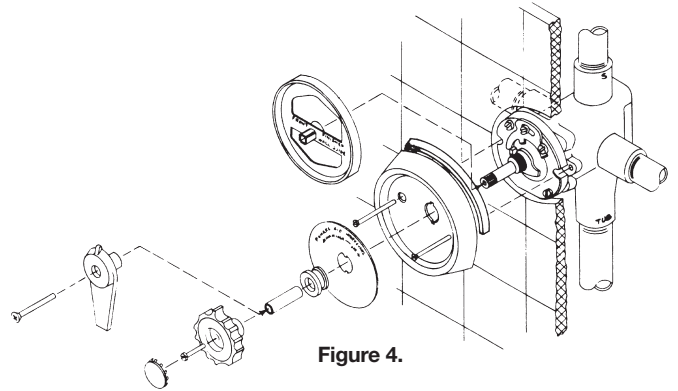

Figure 4.
5. Slide roughing-in guide onto mixer stem until it contacts temperature stop on stem. Facing front of mixer, the words, "Front Finished Wall Guide" can be read. Position mixer so finished wall surface will be within  $\frac{3}{8}$ " (19mm) rim on the guide. This ensures the center line of the mixer connections will be  $2\frac{1}{2}$ " (64mm) from the finished wall surface. After wall is finished, remove rough-in guide. Before assembling dial to mixer body, attach gasket to inside dial and sides. Allow approximately  $\frac{1}{8}$ " (3.2mm) of gasket to protrude past dial edge. Attach dial to mixer body with two screws furnished. Place dial insert inside dial. Secure with retainer (rubber). Cover stem with sleeve, fasten lever handle to stem with screw provided. For lucite handle, use plug button provided. Figure 4 shows typical relationship of parts.